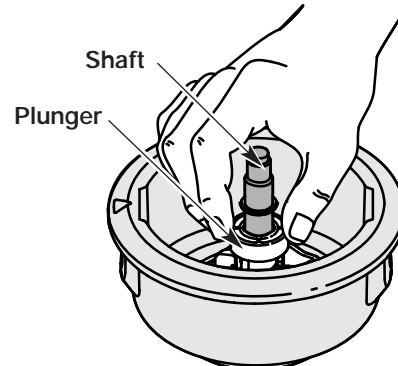

Figure 25
5. Clean the shaft and the inner surface of the outer spool. To clean the shaft underneath the plunger, press down on the plunger. See Figure 25. Remove any dirt or debris from the shaft.